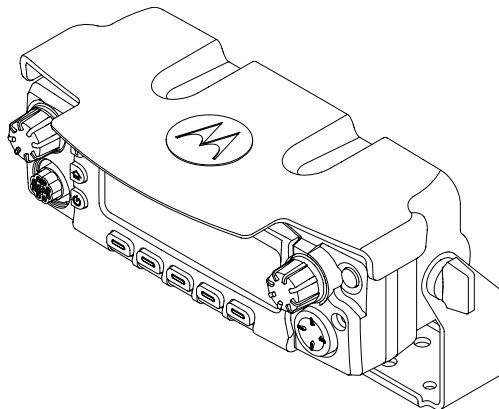

Figure 5-21. Position Control Head as Desired
4. Position control head as desired and install screws as shown in Figure 5-21.